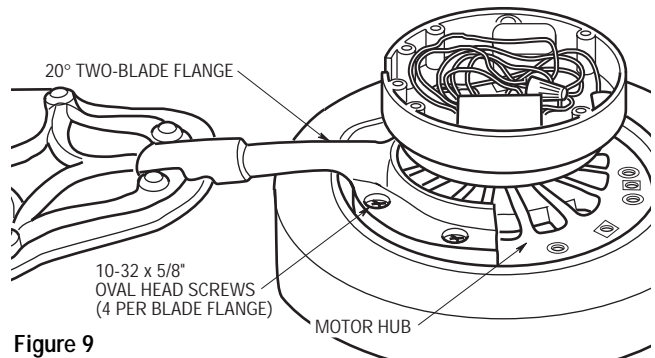

Figure 9
- 14. **TWO-BLADE VERSION.** Attach one blade assembly to the motor hub using four 10-32 x 5/8" oval head screws (supplied) (Figure 9). Install the other blade assembly in the same manner. Gently snug all flange screws to the motor hub. Make sure the ends of the flanges are engaged, then securely tighten all flange screws, working in a clockwise sequence.